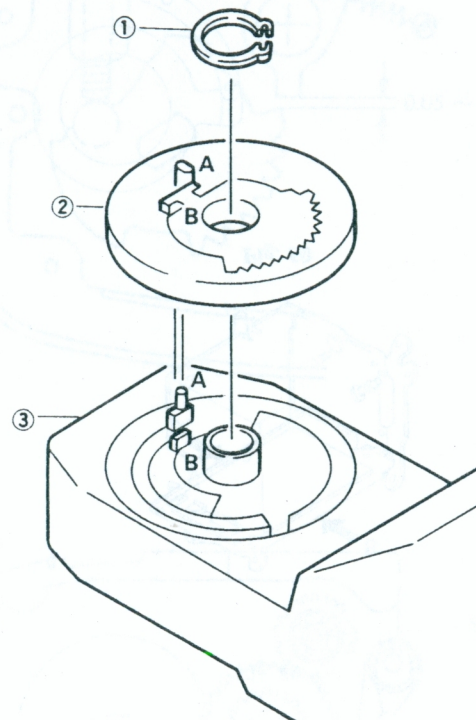

Fig. 44
16. ASA dial (see Fig. 44)
- 1) Mount the FINDER COVER ③ (sketch No. 25 on page 44) on the body.
- 2) The ASA DIAL ASSY ② in Fig. 44 is described upside-down.
- 3) Insert A and B portions of the ASA dial assy into A and B portions of the finder cover shown in Fig. 44.
- 4) Fix it with G TYPE RING ①.